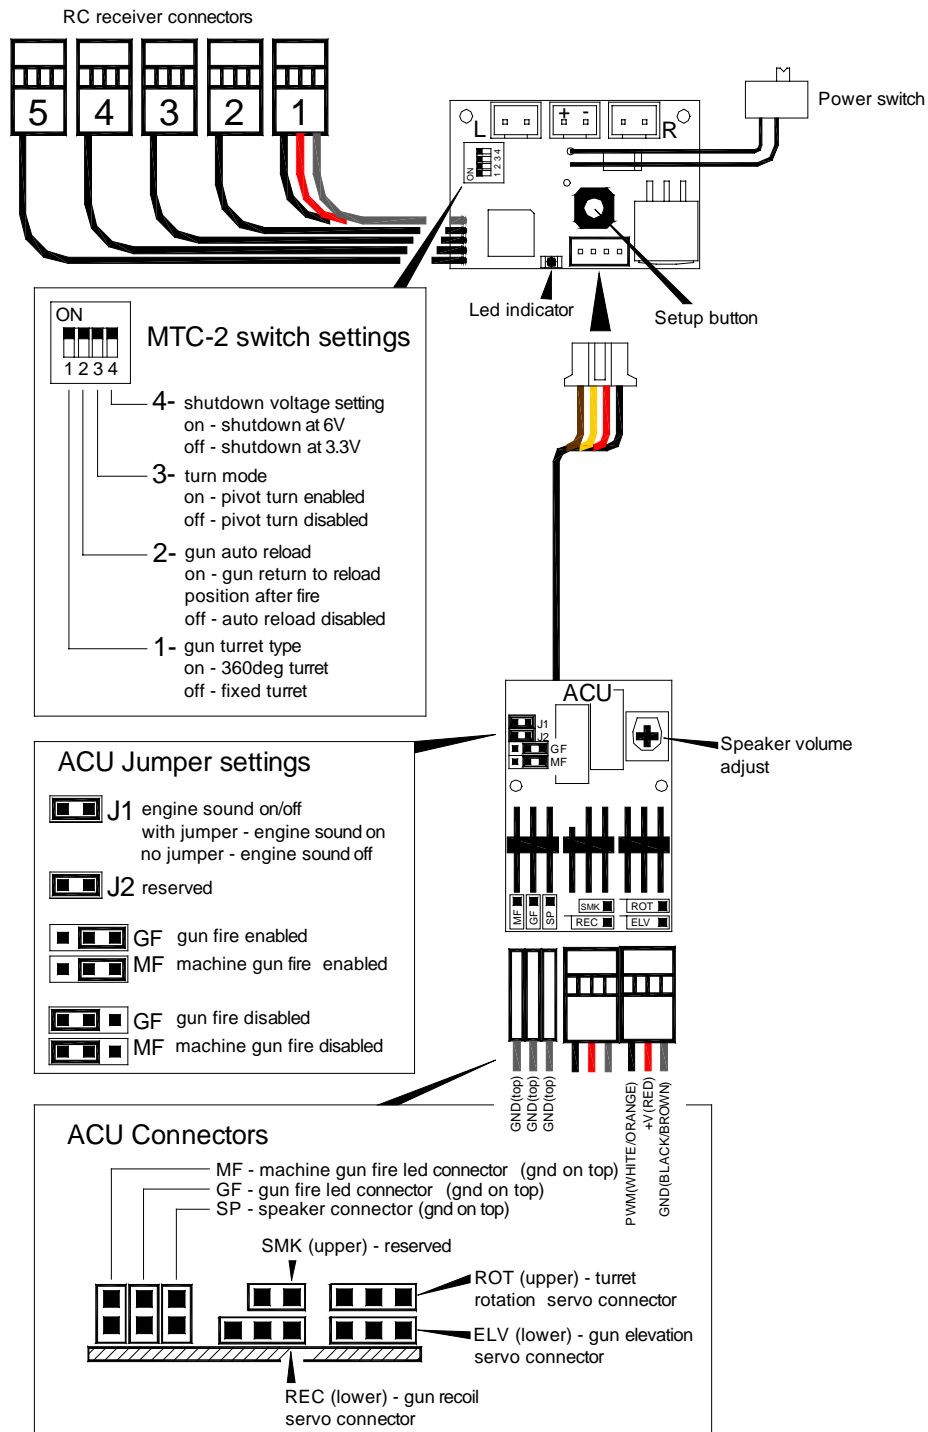

Fig.1 - MTC-2 and ACU auxiliary control unit
- 17) GF and MG jumpers – for enable/disable of gun fire and machine gun fire. See Fig.1 for jumper settings.
- Pivot turn is disabled when dip switch 3 is switched off (Fig.1).
- Both sound effects can be disabled by jumper settings (Fig.1).